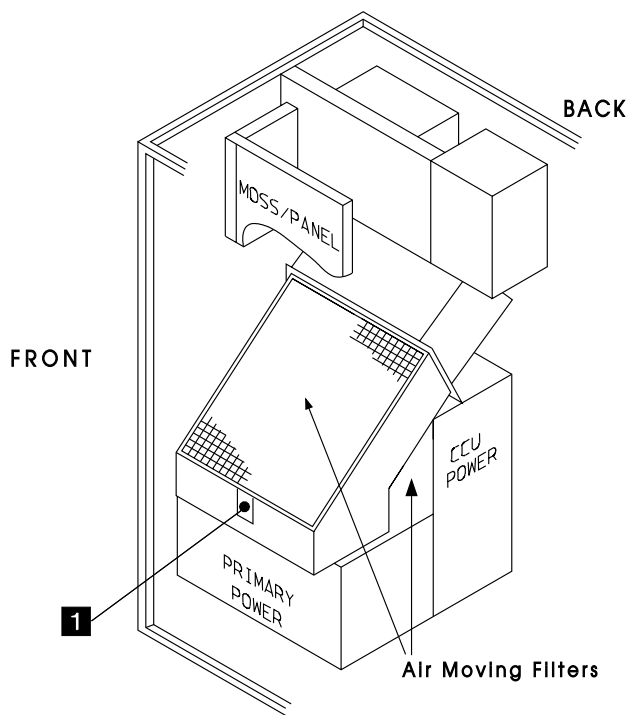
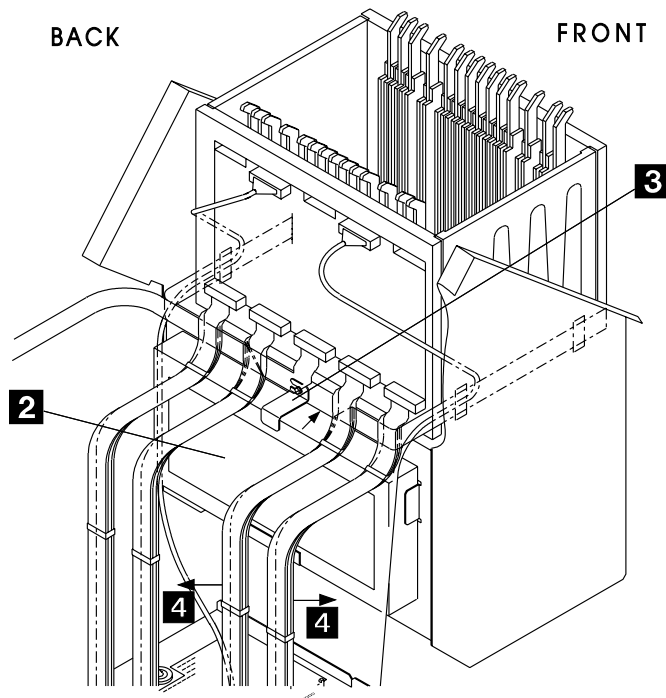

Figure 4-64. Air Filter locations
Figure 4-65. Back Air Filter Location
2. Locate the front air moving device filter. Refer to Figure 4-64.
8. Locate the back air moving device filter **2**. Refer to Figure 4-64 on page 4-90 and Figure 4-65.